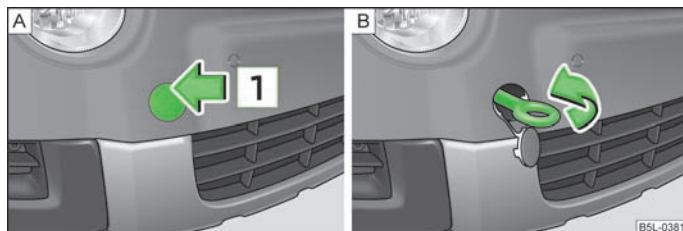

Fig. 165 Front bumper: Removing the cap/installing the towing eye
- Press on the upper half of the cover in direction of arrow **1** » Fig. 165 - **A**.
- Screw in the towing eye by turning to the left up to the stop » Fig. 165 - **B** and tighten as much as possible. For tightening purposes, we recommend, for example, using the wheel wrench, towing eye from another vehicle or a similar object that can be pushed through the eye.